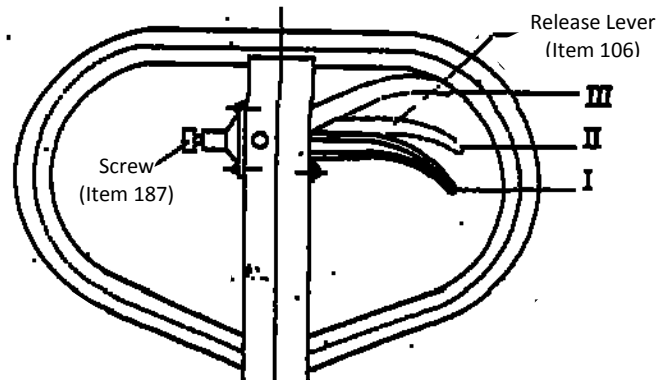

Figure 1
- Function of Adjusting Screw for Release Lever (Shown In Figure 1).